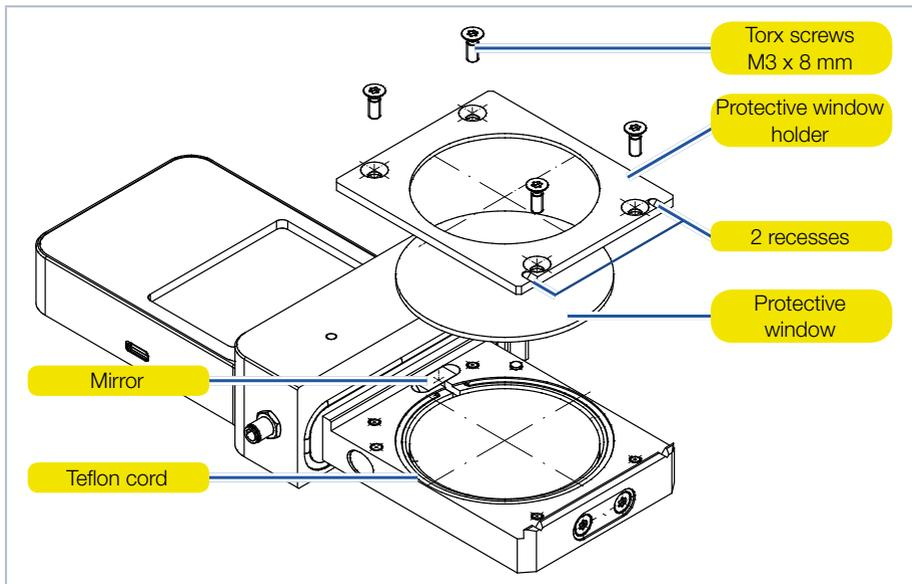

Fig. 14.1: Exchanging the protective window on the PMC-BEO
3. Place the device as shown in Fig. 14.1 on page 32 and carefully remove the protective window holder upwards.
6. Place the protective window holder according to Fig. 14.1 on page 32 with the 2 recesses towards the front.